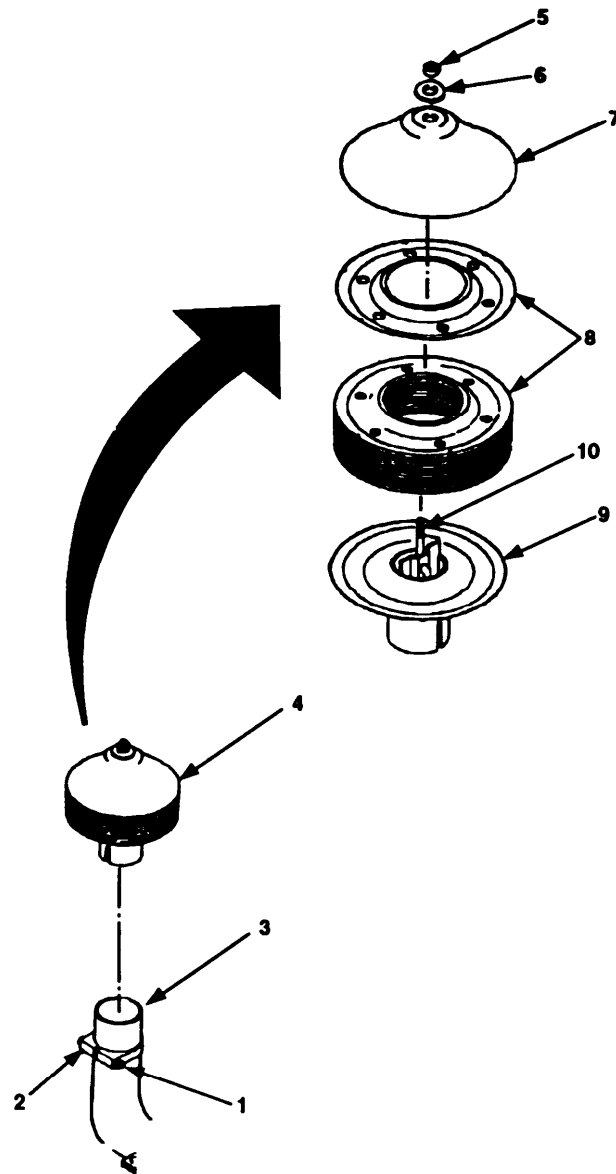

Figure 4-2. Spark Arrestor Maintenance.
- a. Loosen nut (figure 4-2, 1) that secures clamp (2).
- b. Slide clamp (2) onto exhaust pipe (3).
- c. Remove spark arrestor (4).
- a. Remove nut (5), washer (6), and cap (7).
- b. Remove baffles (8) from base (9).
- c. Remove mounting stud (10) from base (9).
- e. Inspect baffles (8) for cracks, holes or other damage.
- f. Check base (9) for cracks and holes.
- g. Position mounting stud (10) in base (9).
- h. Align indentations of baffles (8) and position to base (9) as indicated in figure 4-2.
- i. Install cap (7), washer (6) and thread nut (5) on to mounting stud (10). Tighten nut.
- a. Place spark arrestor (4) on exhaust pipe (3).
- b. Position clamp (2) so that it tightens on both spark arrestor (4) and exhaust pipe (3).
- c. Tighten nuts (1).